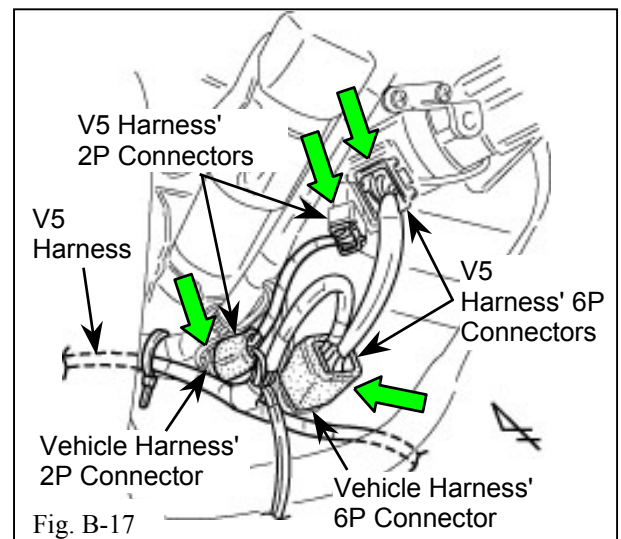

Fig. B-17
23. Plug in the V5 harness' white 2P connectors between the vehicle harness' white 2P connector and the ignition switch. (Fig. B-17)
24. Plug in the V5 harness' white 6P connectors between the vehicle harness' white 6P connector and the ignition switch. (Fig. B-17)